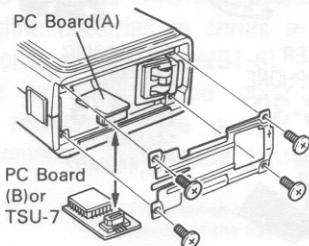

Fig. 1.
3. Remove the Battery Pack and remove the four philips head screws from the terminal plate of the transceiver. (Fig.1)
6. Lift up PC board A , and disconnect PC board B from it. (Fig.1)